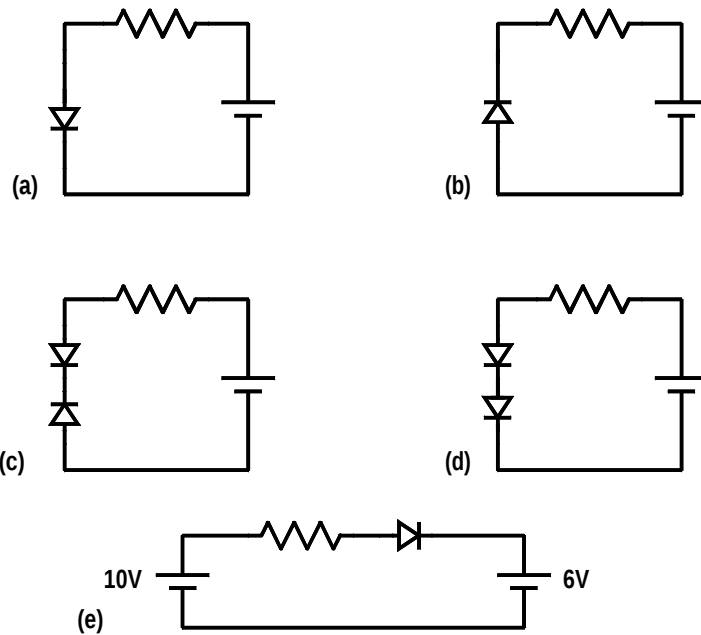

Figure 23.4: Problem 23.4.
23.5 In each of the circuits shown in Figures 23.4 (a) to (e), indicate which diodes are forward biased and which are reverse biased. Also indicate whether you expect current to flow or not to flow. Why are resistors included in the circuits?